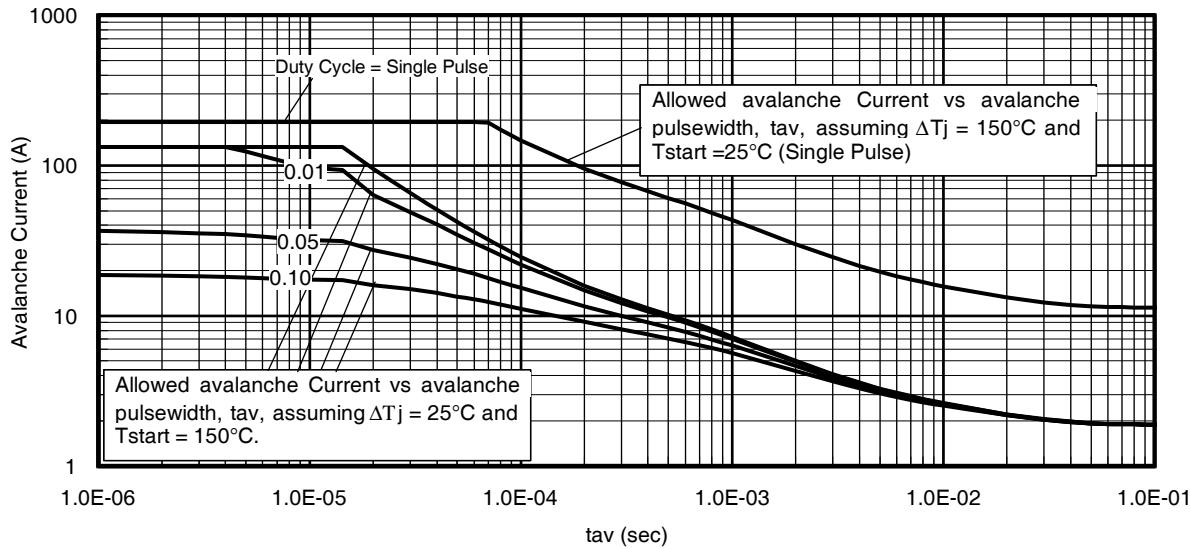

Fig 14. Typical Avalanche Current vs.Pulsewidth
Notes on Repetitive Avalanche Curves , Figures 14, 15
7. ΔT = Allowable rise in junction temperature, not to exceed T_{jmax} (assumed as 25°C in Figure 14, 15).